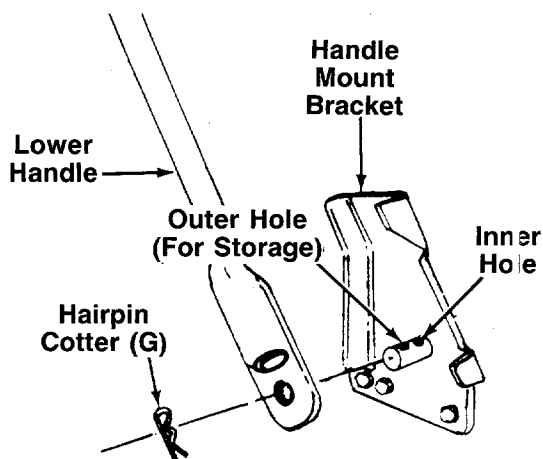

FIGURE 2.
3. Place lower handle in position over weld pins in handle mount brackets on deck. Make certain the instruction label on the lower handle can be read from the operating position. Secure by placing two hairpin cotters (G) in inner hole on weld pins. See figure 2.